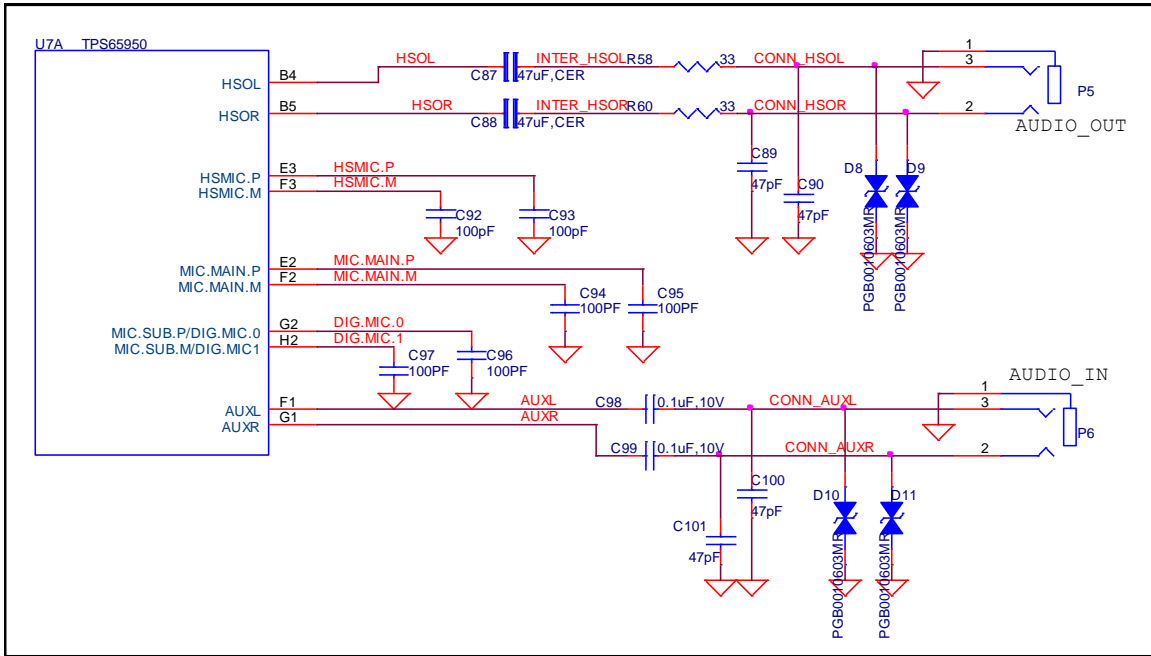

Figure 43. Audio Circuitry
**Figure 43** is the Audio circuitry design on the BeagleBoard.